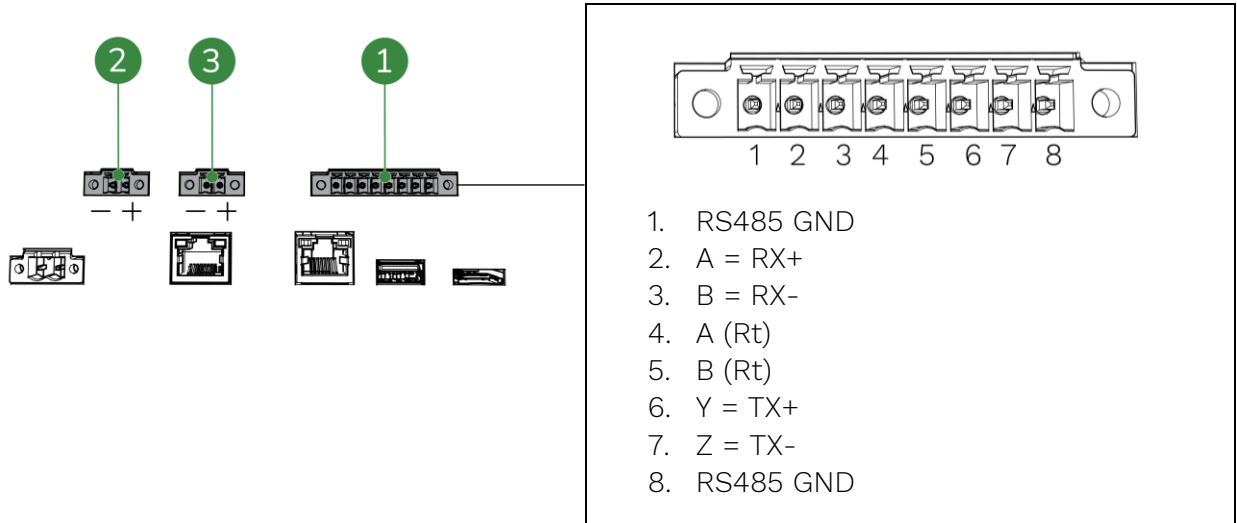

Figure 5-29: HMI 4-20MA (2x) and RS485 connector (with legend)
- 4-20MA connector (2x) (Figure 5-29, pos. 2 and pos. 3);
- RS485 connector (Figure 5-29, pos. 1).